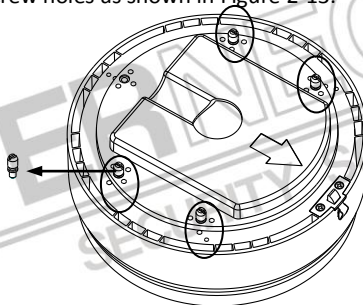

Figure 2-13 Install the bolts
2. Install 4 bolts to the screw holes as shown in Figure 2-13.